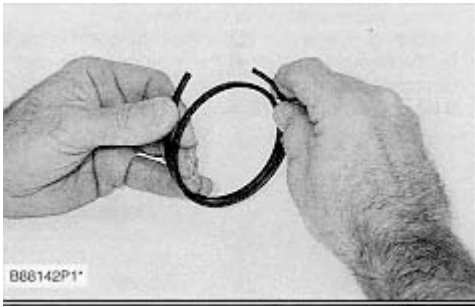
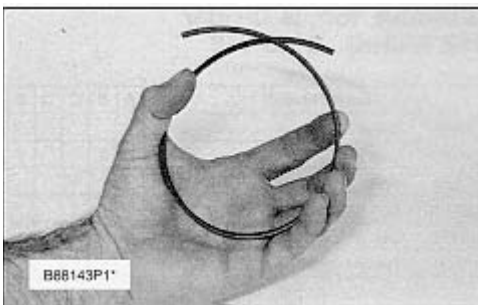

Figure 1. Correct Method To Make (Non-Metal) New Seal Rings Ready For Installation.
Figure 2. Wrong Method To Make (Non-Metal) New Seal Rings Ready For Installation.
**New seal rings must be preloaded before they are installed to prevent them from being damaged or broken. There is a correct method to preload new seal rings prior to installation. Place your hands on each end of the seal ring, and pull (wind) the ends several inches past each other or until they almost make contact. See Figure 1. Use care to keep the ring shaped like a circle. This will make an even bend (or ring "set") all around the ring. When the seal ring is in the groove of the carrier, the ends must butt together lightly. Do not bend the seal ring as shown in Figure 2. This does not make an even bend all the way around the ring.**